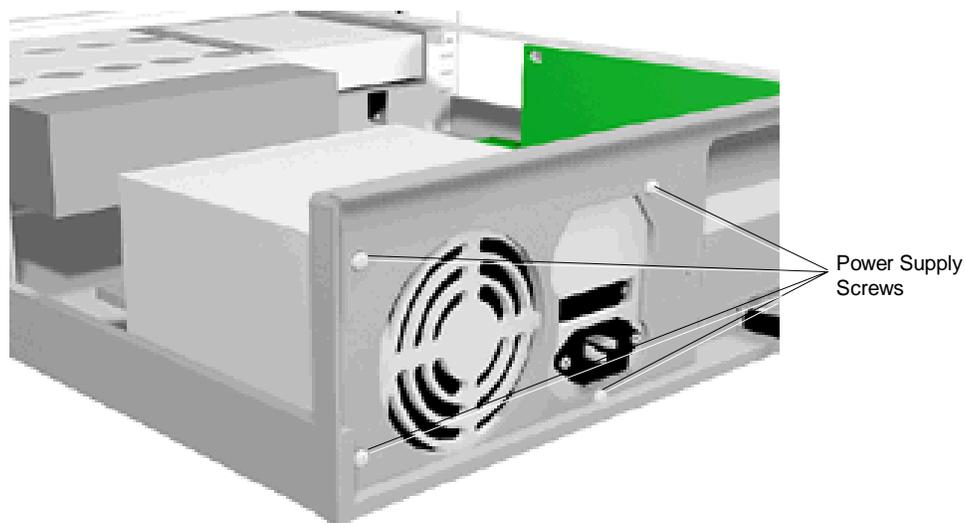

Figure 5-14 Power Supply Screws
5. Remove the four screws holding the power supply to the system unit (see Figure 5-14).